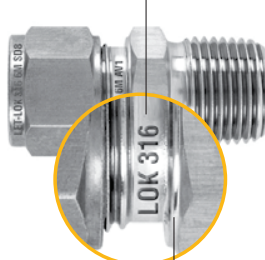

Fig. 2
**Straight Connectors:** (see Fig. 2)